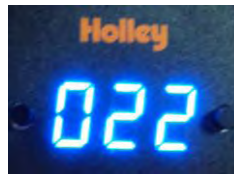

Figure 4
3. **SETTING 1** - This is your first setting that you will need to program. This setting decides what parameter you want the gauge to display. For example, if you want to set up a Fuel Pressure Gauge, the first setting will be 022 (**Figure 4**). The choices are shown in **Table 1** (on the next page):